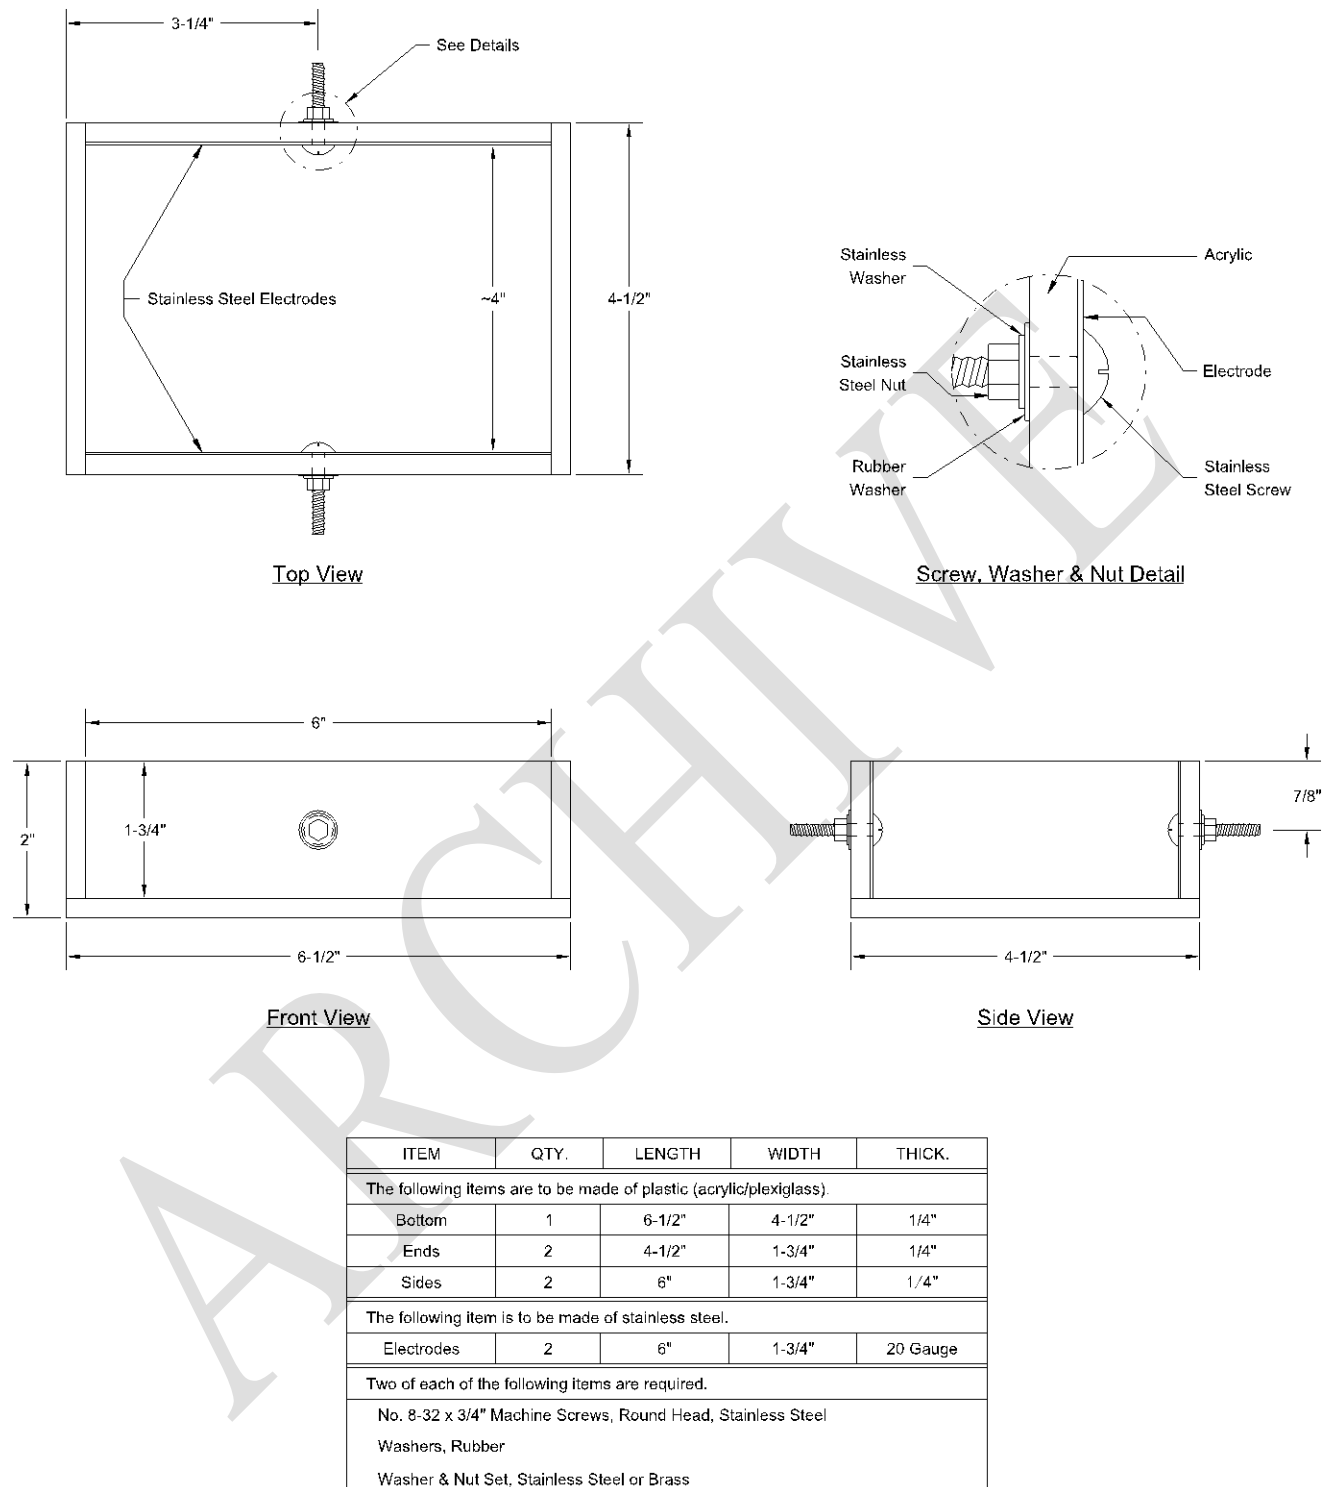

Figure 1—Soil Box for Laboratory Resistivity Determination
- 3.2 Small box with inside dimensions of 102 × 152 × 45 mm (4 × 6 × 1-3/4 in.) (See Figure 1.)